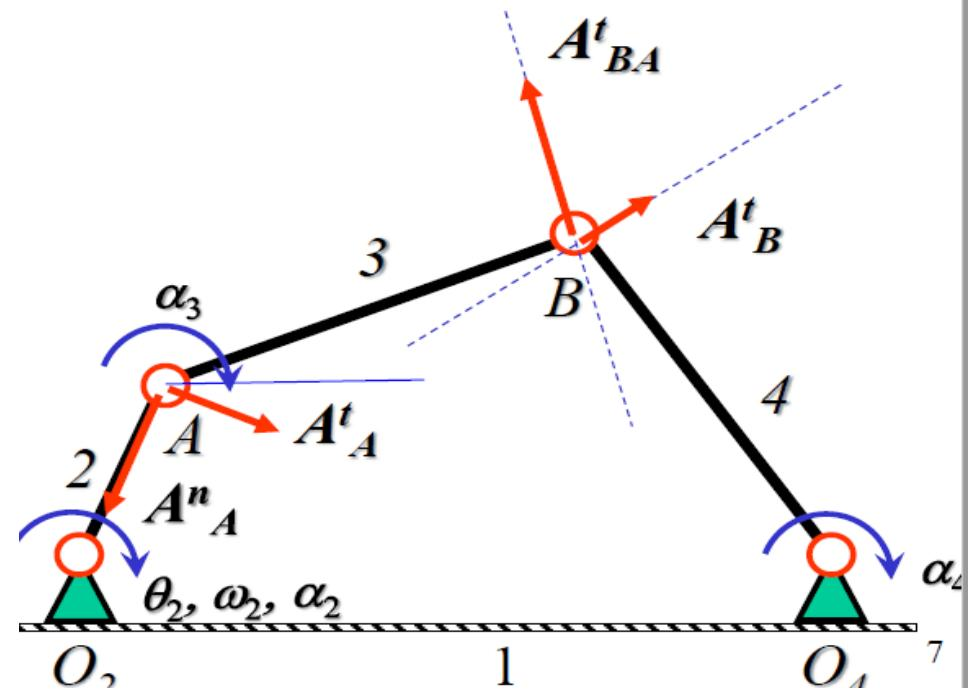

Figure 9
- Acceleration analysis involves determining the amount that certain points on links of mechanism are either, speeding up or slowing down, Figure 9.